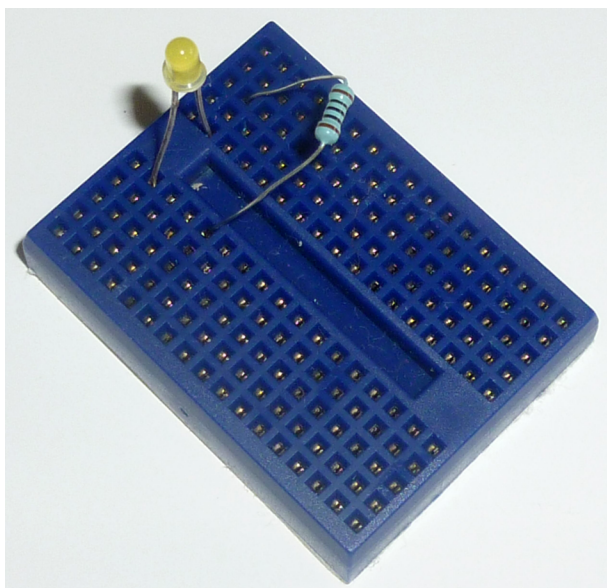

Figure 3-2. Resistor (*RES1*) and LED inserted into the motherboard
- When wiring, rotate the mini breadboard so that it is taller than it is wider (as seen in Figure 3-2); with this orientation, each row is broken into two segments of five holes.
I've also inserted RES1 so that one of its leads shares a row with the cathode (–) lead of the LED. Notice in Figure 3-2 that RES1's other lead is inserted into an empty row on the mini breadboard just below the LED's anode lead.